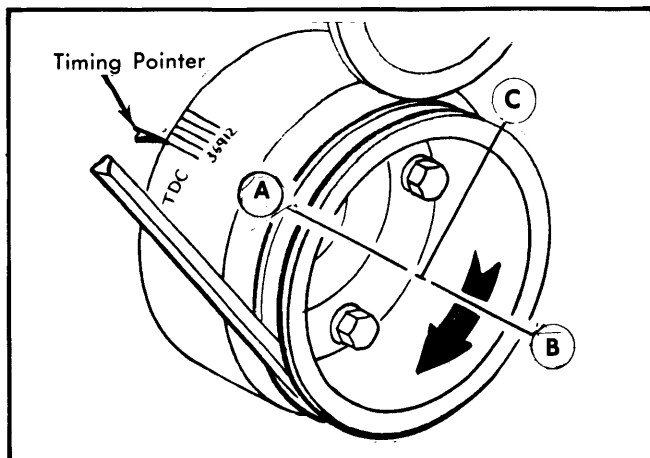

Fig. 8 Crankshaft Positions for Adjusting Hydraulic Valve Lifters
302" Engine — 1) With No. 1 piston on TDC at end of compression stroke (position A in Fig. 8), set valve clearance on the following valves: No. 1 intake, No. 1 exhaust, No. 7 intake, No. 5 exhaust, No. 8 intake, No. 4 exhaust.
2) Rotate crankshaft to position B (see Fig. 8) by rotating crankshaft 180° clockwise from the TDC position. Set clearance on the following valves: No. 5 intake, No. 2 exhaust, No. 4 intake, No. 6 exhaust.
3) Rotate crankshaft to position C (see Fig. 8) by rotating crankshaft 270° clockwise from position B. Set clearance on the following valves: No. 2 intake, No. 7 exhaust, No. 3 intake, No. 3 exhaust, No. 6 intake, No. 8 exhaust
351" W Engine – 1) With No. 1 piston on TDC at end of compression stroke (position A in Fig. 8), set valve clearance on the following valves: No. 1 intake, No. 1 exhaust, No. 4 intake, No. 3 exhaust, No. 8 intake, No. 7 exhaust.
2) Rotate crankshaft to position B (see Fig. 8) by rotating crankshaft 180° clockwise from the TDC position. Set clearance on the following valves: No. 3 intake, No. 2 exhaust, No. 7 intake, No. 6 exhaust.
3) Rotate crankshaft to position C (see Fig. 8) by rotating crankshaft 270° clockwise from position B. Set clearance on the following valves: No. 2 intake, No. 4 exhaust, No. 5 intake, No. 5 exhaust, No. 6 intake, No. 8 exhaust.